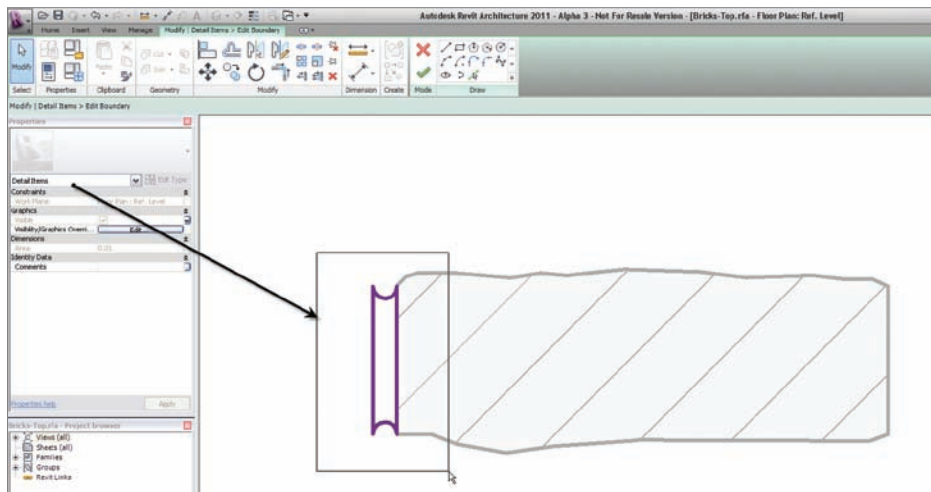

FIGURE 12.21 Editing the mortar joint filled region and then placing the lines on Detail Items
13. Select the mortar joint to the left of the brick, as shown in Figure 12.21.
16. Place them on Detail Items, as shown in Figure 12.21.